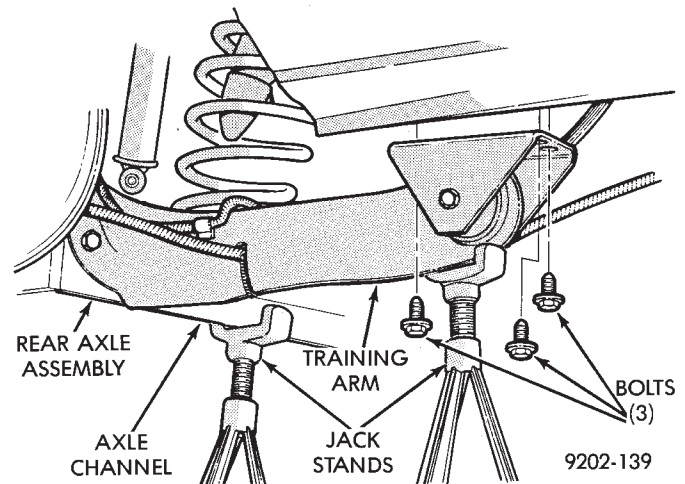

Fig. 8 Install Hanger Bracket on Frame
(4) Position hanger to frame rail (a suitable drift will aid in guiding hanger bracket into position). Install and tighten screws to 75 N•m (55 ft. lbs.) torque (Fig. 8). Install lower shock absorber mounting bolt, **but do not tighten.**